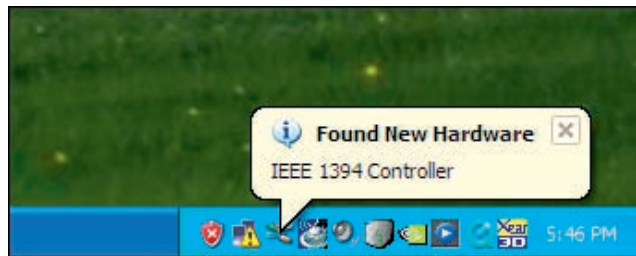

Figure 9-69 Windows XP finds the IEEE 1394 controller and installs drivers
3. Start Windows, which automatically detects the card and installs its own embedded Windows IEEE 1394 drivers. See Figure 9-68 for Vista and Figure 9-69 for XP.